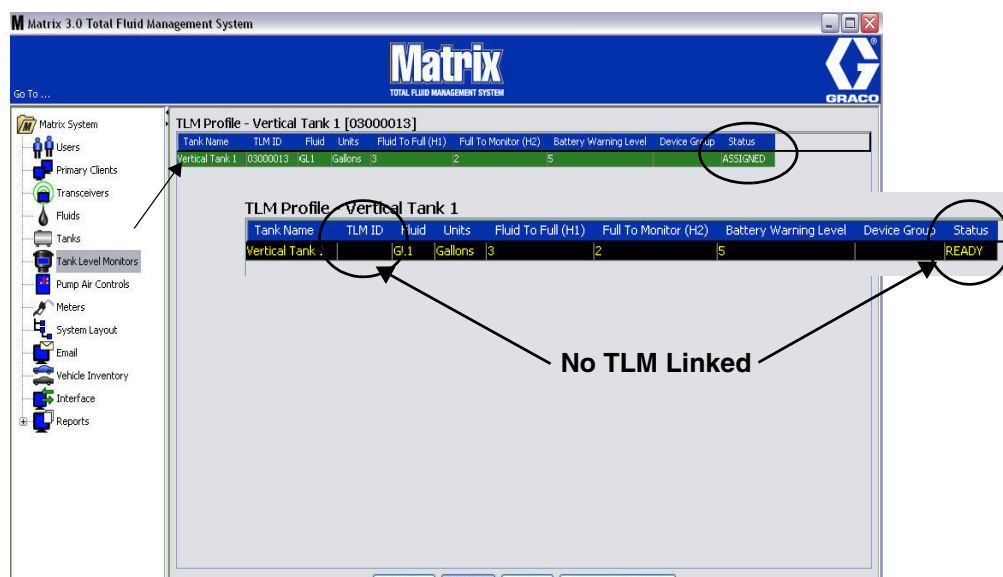

FIG. 109
- When all fields have been completed, click the OK button on the bottom of the Add TLM Profile Screen. The profile is added to the top of the list. "Assigned" in the Status column confirms the profile is complete. "Ready" will appear in the Status column when the profile is incomplete. Notice in FIG. 109 the TLM ID field is blank indicating a TLM is not linked to Matrix system.